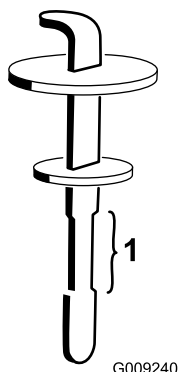

Figure 131
5. Remove the dipstick from the filler neck and wipe it with a clean rag. Insert the dipstick into the filler neck, then remove it and check the fluid level (Figure 131).